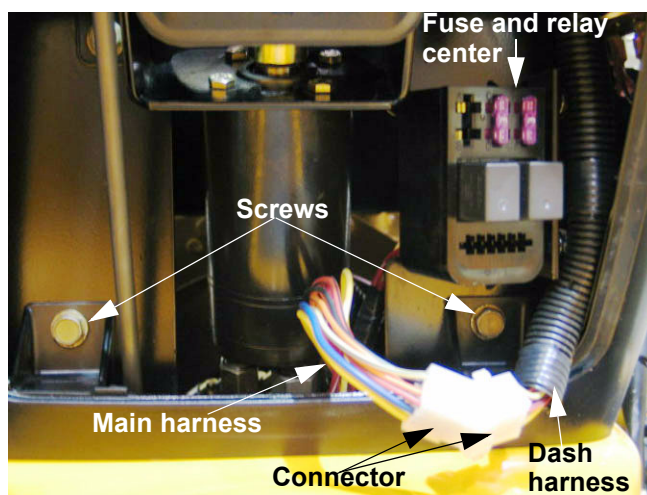

Figure 1.18
- 1.18. Use a 1/2" wrench to remove the two screws holding the base of the dash panel to the pedestal. See Figure 1.18.